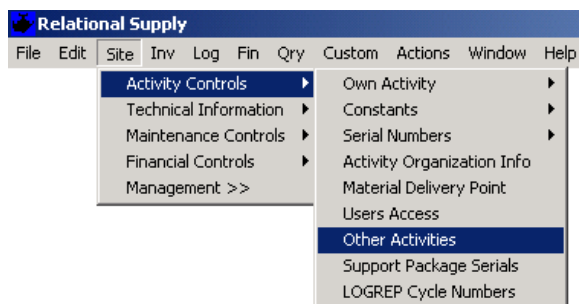
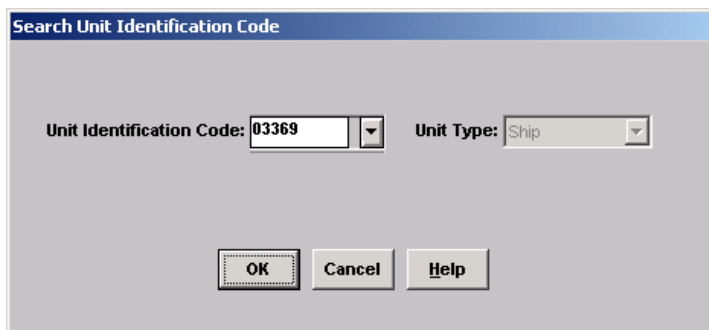

Figure 4.8
Figure 4.9
Accessing **Other Activities** (Figure 4.8) displays the **Search Unit Identification Codes** window (Figure 4.9).
- 4.3.1 The *Search Unit Identification Code* window (Figure 4.9) allows the user to search for existing activities by Unit Identification Code. From the *Unit Identification Code* list, select a UIC.
- 4.3.2.2 If **Ship** is selected for the **Unit Type** on the **Search Unit Identification Code** window (Figure 4.9), the **Unit** tab (Figure 4.10) displays information specific to the activity. The user can enter and select information to include: **Service Code**, **Activity Name**, **Address** information, **Ship Type**, **Ship Hull Number**, **TYCOM**, **Fund Code Designator**, **Navy Working Capital Fund Indicator**, **Fund Code Restriction Indicator**, **Supported Unit** and **Break Bulk Point** (Org Cd) list boxes.
- 4.3.2.3 If **Shore Site** is selected for the **Unit Type** on the **Search Unit Identification Code** window (Figure 4.9), the **Unit** tab (Figure 4.11) displays information specific to the activity. The user can enter and select information to include: **Service Code**, **Activity Name**, **Address** information, **TYCOM**, **Fund Code Designator**, **Navy Working Capital Fund Indicator**, **Fund Code Restriction Indicator**, **Supported Unit** and **Break Bulk Point** (Org Cd) list boxes, and a **Hub** (ATAC) check box.